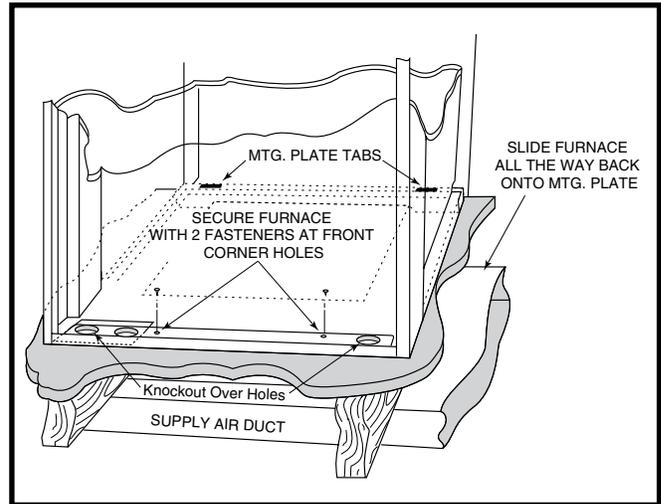
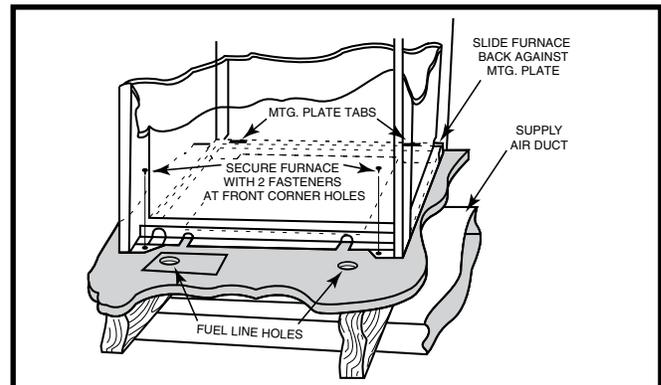

Figure 14. "A" & "B" Cabinet Furnaces
Figure 15. "A" Cabinet Furnace on Coil Cabinet
Sides and back of the furnace may be enclosed by wall framing such as in a closet or alcove. The dimensions of the room or alcove must be able to accommodate the overall size of the furnace shown in Figure 4 (page 5) and the installation clearances outlined on page 4. The furnace shall be appropriately connected to the supply distribution system as shown in Figure 14 (page 9) & Figure 15 (page 9).
4. Secure front with one (1) fastener at each corner. See Figure 14 & Figure 15.